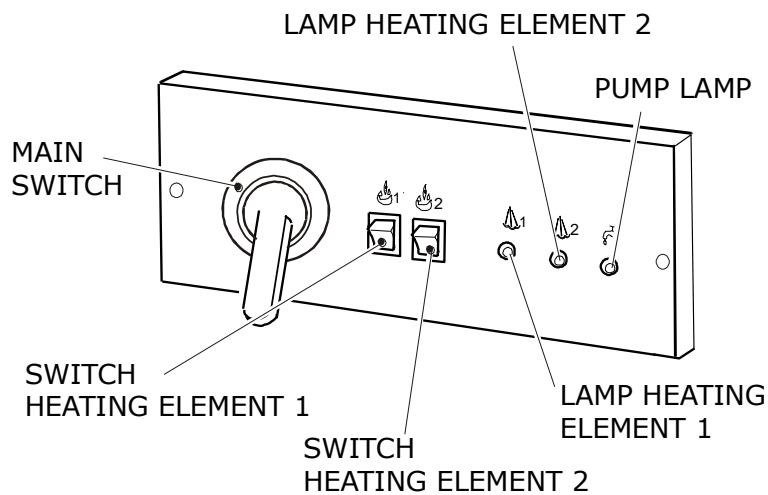

Fig. 2
4. turn on the main switch and the switches for heating element 1 and 2 (fig. 2), turn the sluice valve which takes steam to the plant (fig. 1). Wait for lamps 1 and 2 to switch off; now, the manometer should mark a pressure of 4,5 BAR.